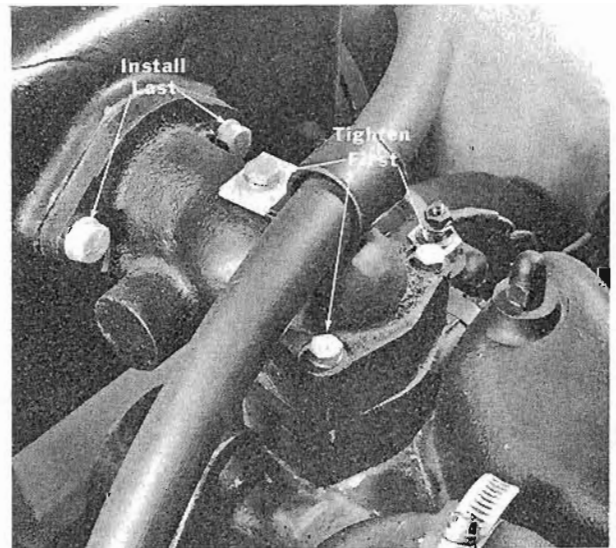

Figure 8. Water Outlet Housing
1. Tighten 3 screws (Figure 8) which hold water outlet housing to thermostat housing.
4. Install 2 screws (Figure 8) and lockwashers between water outlet housing and heat exchanger and tighten securely.